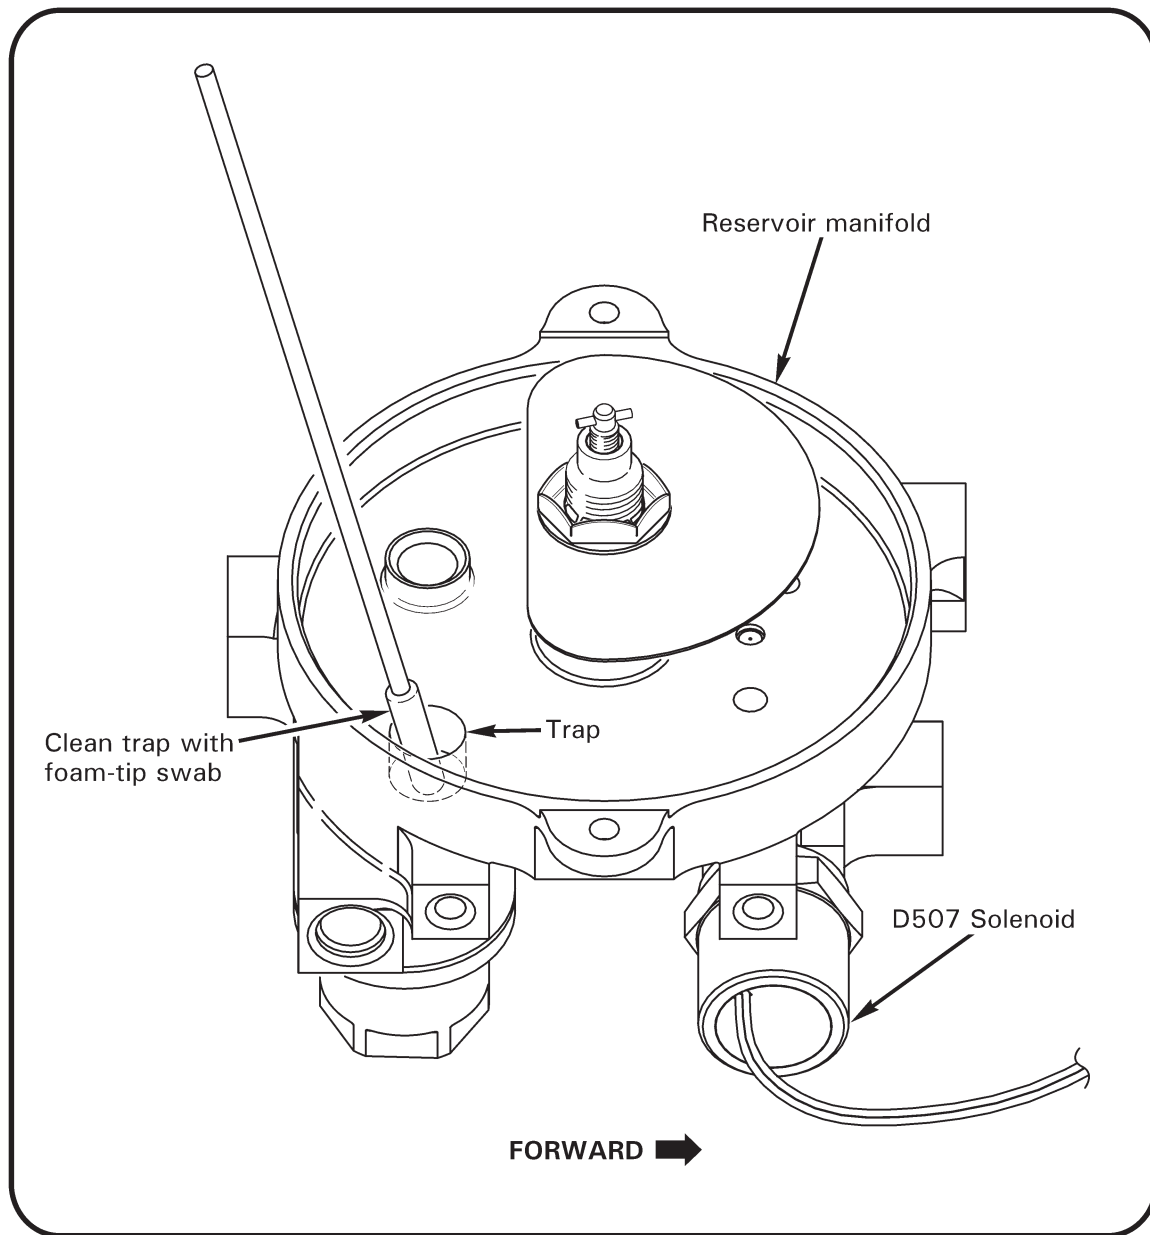

FIGURE 2-20 HYDRAULIC RESERVOIR INSPECTION
5. Refer to Figure 2-20. Avoid disturbing orientation of sheet-metal baffle. Suction remaining fluid from manifold using suitable, clean, plastic tube (do not use metal tool). Using lint-free wipe, clean exposed interior of manifold. Wipe out any residue from trap (blind hole) with clean, foam-tip swab.